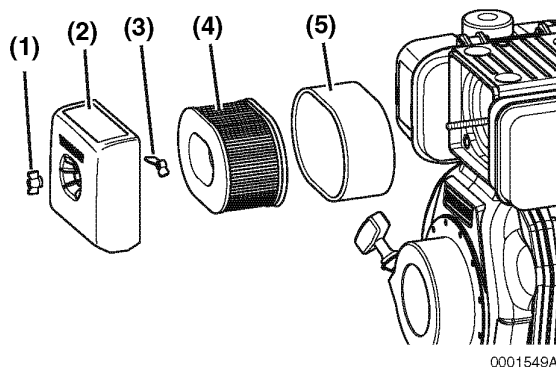

Figure 5-10
1. Remove the wing nut (**Figure 5-10, (1)**).
2. Remove the air cleaner cover (**Figure 5-10, (2)**).
3. Remove the wing nut (**Figure 5-10, (3)**).
4. Remove the air cleaner element (**Figure 5-10, (4)**) and outer foam element (**Figure 5-10, (5)**).
8. Clean the inside of the air cleaner cover (**Figure 5-10, (2)**).
9. Reinstall the air cleaner element (**Figure 5-10, (4)**) into the air cleaner housing.
10. Slide the outer foam element (**Figure 5-10, (5)**) over the air cleaner element (**Figure 5-10, (4)**).
11. Reinstall the wing nut (**Figure 5-10, (3)**) and hand-tighten. Over-tightening the wing nut will damage the air cleaner assembly.
12. Reinstall the air cleaner cover (**Figure 5-10, (2)**).
13. Reinstall the wing nut (**Figure 5-10, (1)**) and hand-tighten. Over-tightening the wing nut will damage the air cleaner assembly.